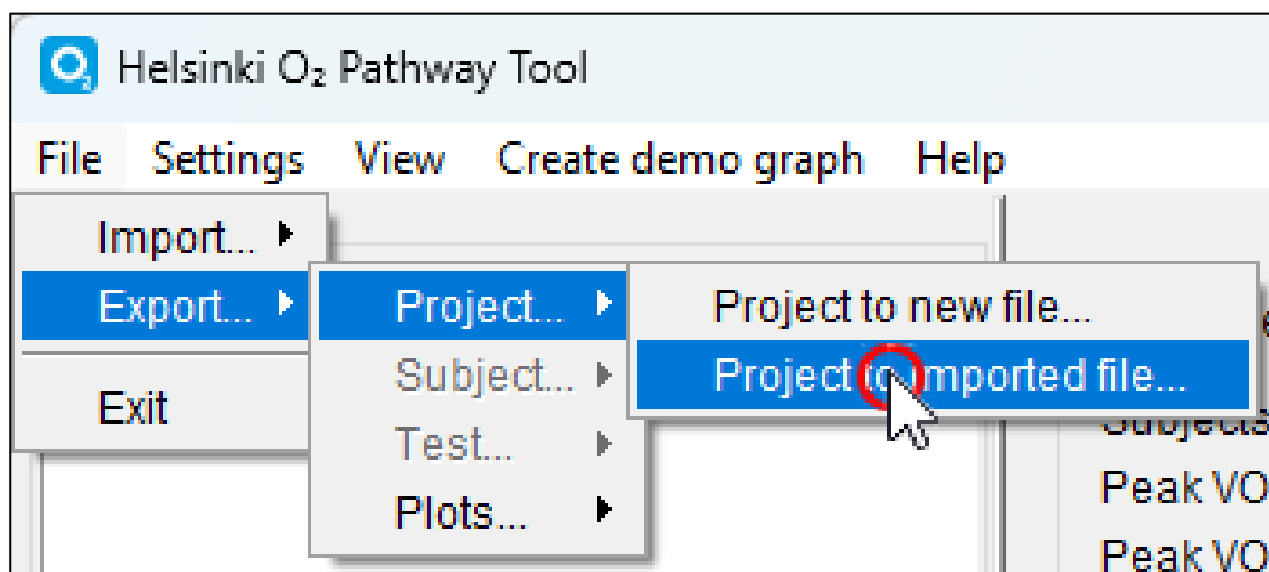

Figure 52
4. Select an exporting method from the “**File**” menu in the main menu bar (Figure 52).